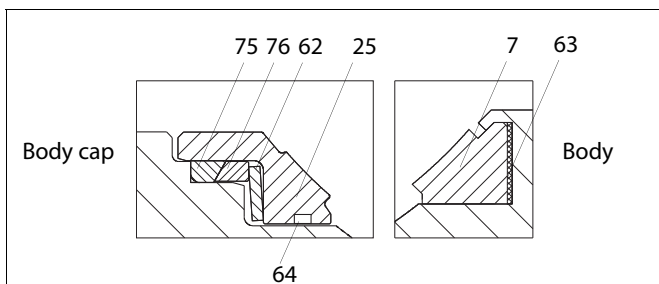

Fig. 27 G seat (2'')
- ❑ Place the back seal (63) into the body counterbore. Then place the seat (7) into the body counterbore, see Fig. 27.
- ❑ Place the back seal (75), back-up ring (76), spring (62) and the seat (25) with back seal (64) into body cap, see Fig. 27.